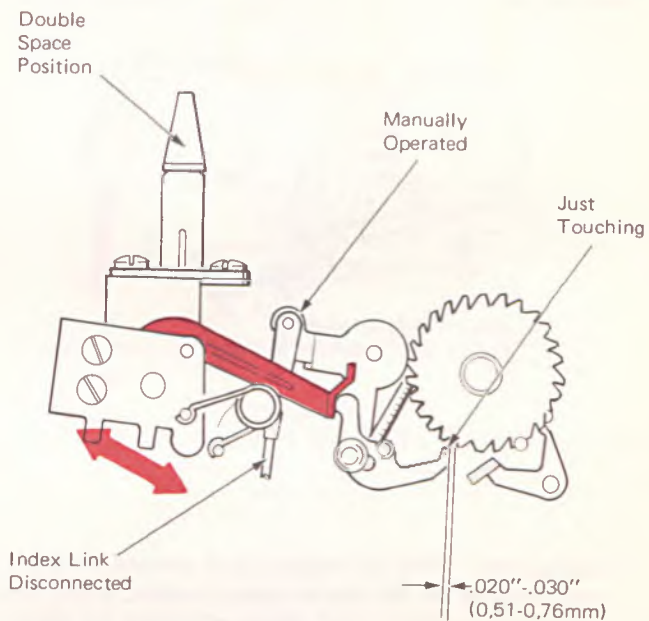

Figure 1
18. *Line Space Cam Lever* – With the index link disconnected, the index selector lever in the double space position, and the index pawl carrier manually operated, adjust the cam lever front to rear for .020”-.030” clearance between the working surface of the pawl and the platen ratchet tooth (Figure 1). With the index selector lever in the single index position, adjust the cam lever vertically so that the index pawl is centered on the cam surface (Figure 2).